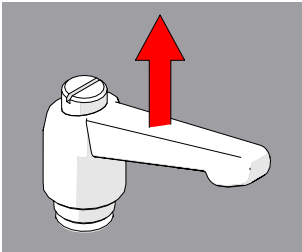

Fig. 32 - Pull ratchet handle
1. Pull the ratchet lever away from the base to which it is connected (Fig. 32).